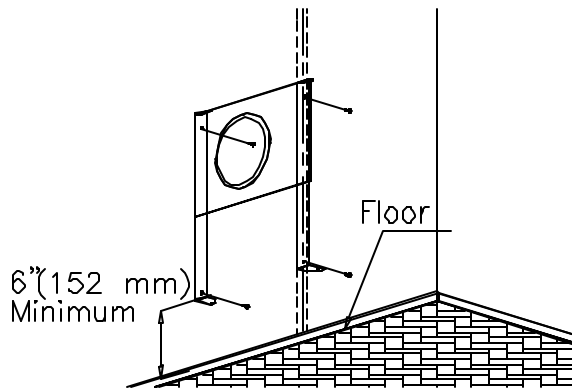

Figure 9
4. Place wall bracket over the hole. After leveling the hanging bracket, mark the four holes as shown in figures 9 and 10.